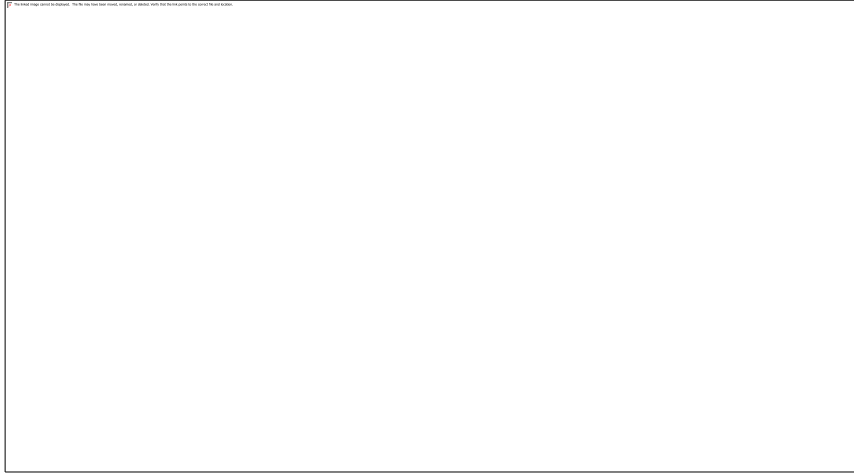

Figure 4-21
7. Select *Zone|Cut Pipe*. This tool is similar to *Zone|Pipe* and is a tool to put in a straight pipe with quick connections to each zone item the pipe crosses without having to click on each item to connect to it. Click on the top far left sprinkler. Now click on the sprinkler where the area goes upward. Click on the top left sprinkler then the top right sprinkler. Now click on the bottom right sprinkler and then the far-left sprinkler. *Right-click|Restart*. Your design should look like Figure 4-21.